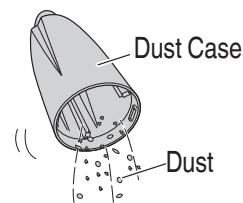

Fig. 20
1. Turn the dust case and pull it from the housing. (Fig. 20)